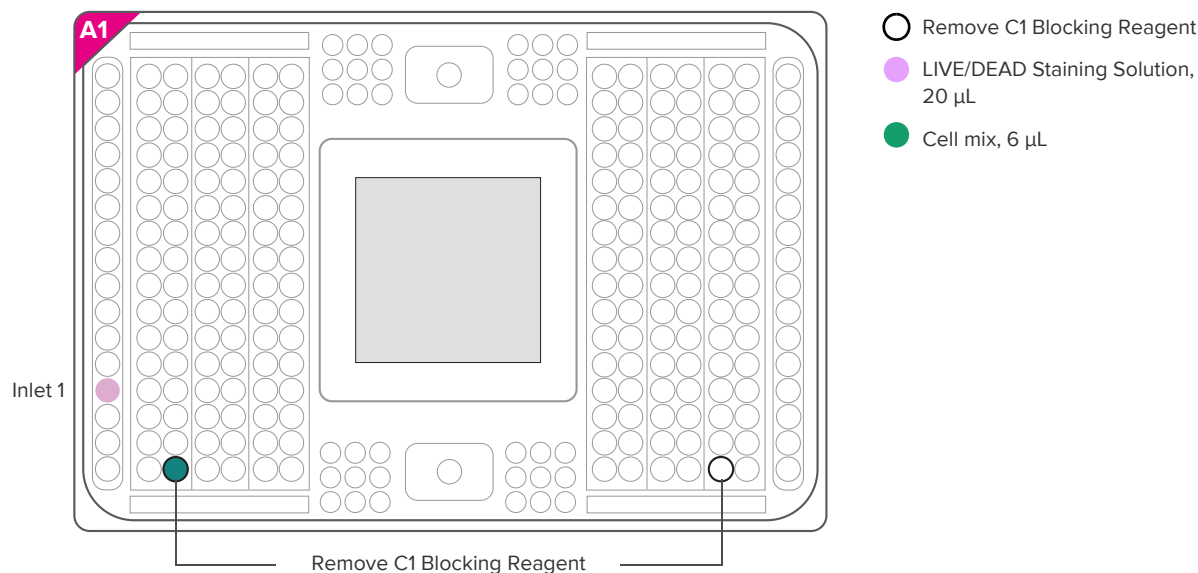

Figure 4. C1 IFC loading pipetting map
- The total volume of cell mix may be scaled depending on volume of cells available. You will load 6 μL of the cell mix into the IFC (see Figure 4).
- Use a pipette and tip to remove blocking solutions from cell inlet and outlet marked with teal and white dots in Figure 4.